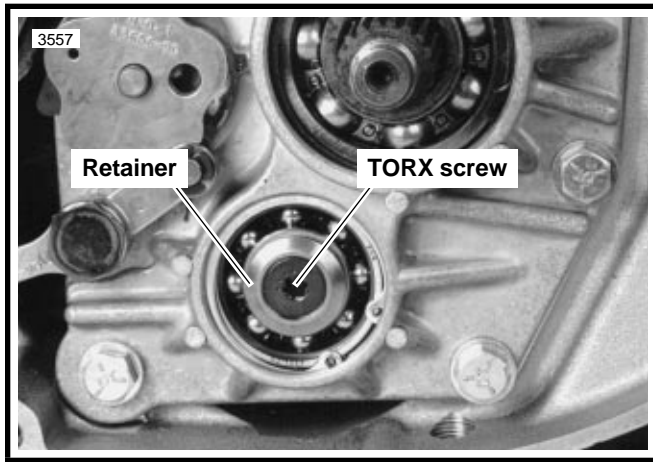

Figure 6-14. Countershaft Retainer
7. Remove transmission sprocket nut (3) from main drive gear shaft (1).
8. Remove secondary drive belt from transmission sprocket (2). Remove transmission sprocket from main drive gear shaft (1).
11. See Figure 6-14. Lock transmission in gear. Remove countershaft TORX screw and retainer.